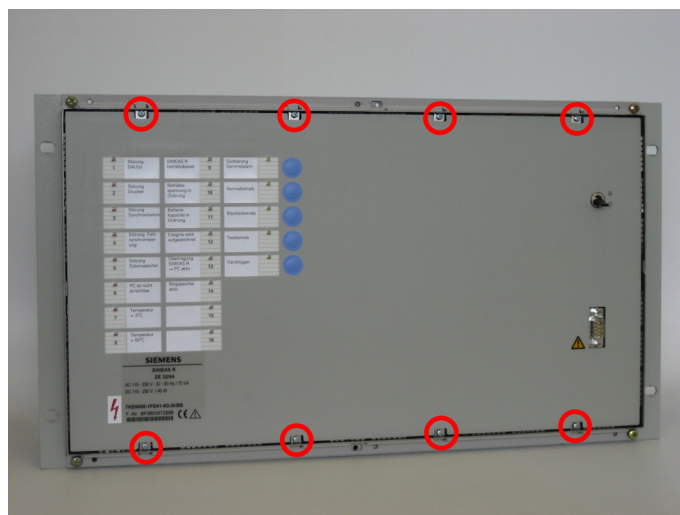

Figure 2-2 Removing the front plate
- ❑ Remove the screws on the top edge of the front plate. Loosen the screws on the lower edge only until the front plate can be easily removed (see Figure 2-2).